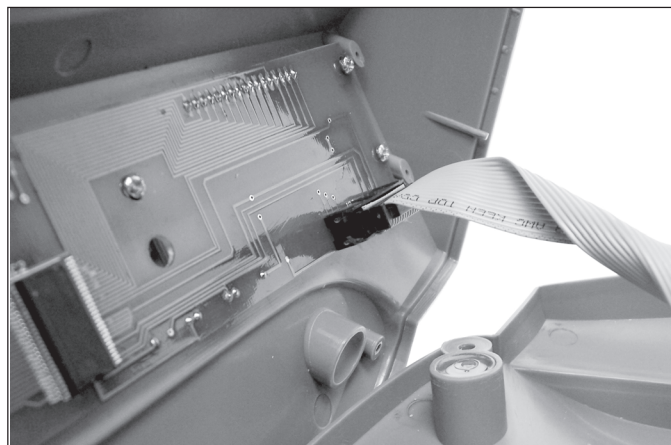

Figure 4-3. Disconnecting the Ribbon Cable.
3. Carefully disconnect the ribbon cable from connector on the Display PC board. See Figure 4-3.